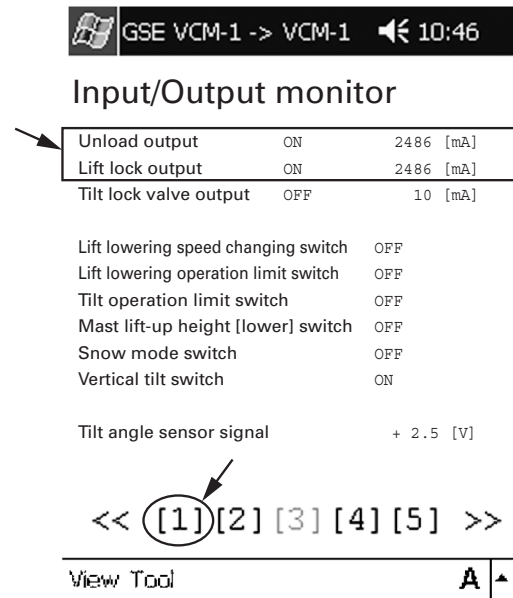

Fig. 2 I/O Monitor [1]
- (5) Display I/O Monitor Page [1] on service tool. When the status of Seating Flag is ON, the controller releases the mast interlock and turns unload output and lift lock output ON. Normal lifting and tilting operation can be conducted in this stage (Fig. 2).